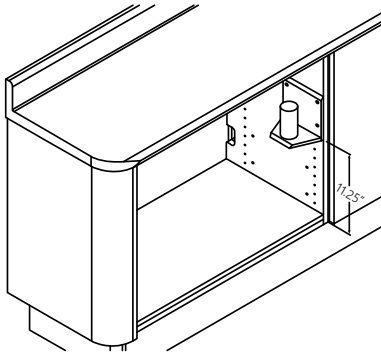

FIGURE 1
1. With a $7/32$ " hex key and a $9/16$ " wrench, install the **Post Wall/Cabinet Mount Adapter** to the cabinet with the supplied mounting hardware. **Figure 1**